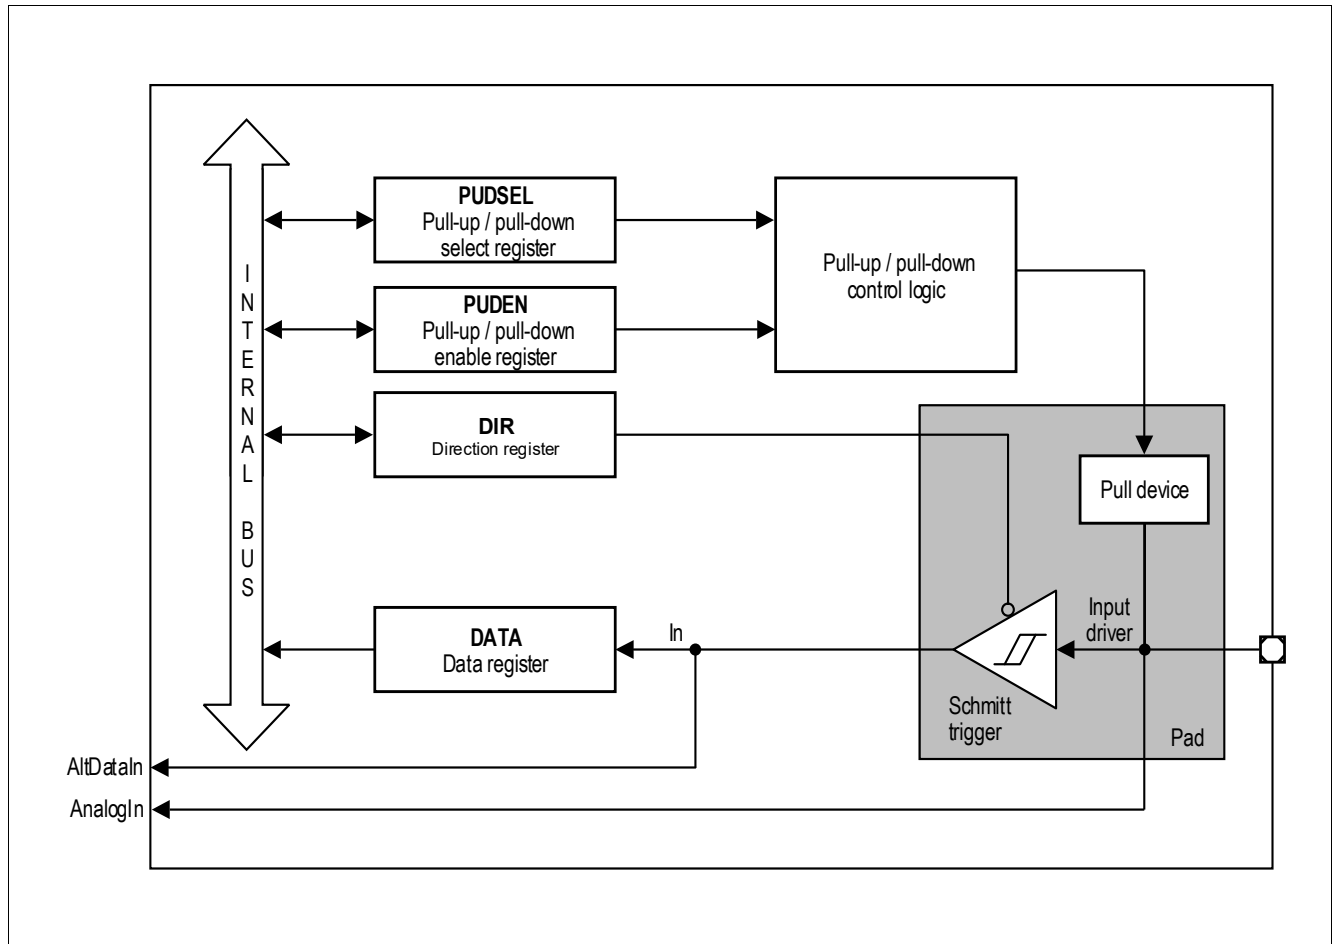

**Figure 16 General structure of a bidirectional port (P0, P1)**
**Figure 16** shows the block diagram of a TLE9872-2QXA40 bidirectional port pin. Each port pin is equipped with a number of control and data bits, thus enabling very flexible usage of the pin. By defining the contents of the control register, each individual pin can be configured as an input or an output. The user can also configure each pin as an open-drain pin with or without an internal pull-up/pull-down.